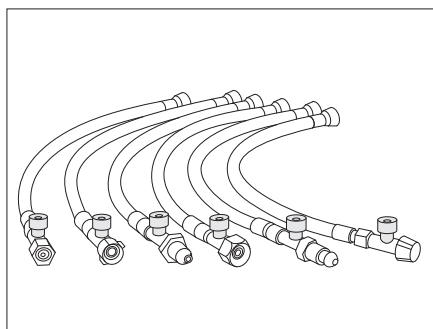

Fig. 93 High-pressure hoses with hose break guard (country-specific variants)
- Firmly press the green button at the high-pressure hose (Bild 93).